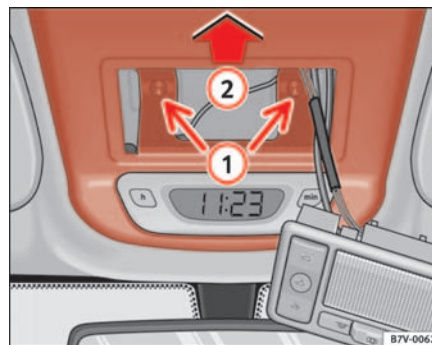

Fig. 69 Manual release
- Invert the screwdriver head and undo the two Philips screws **1** ⇒ fig. 69.
- Move the cover in the direction of the arrow **2** and remove ⇒ fig. 69.